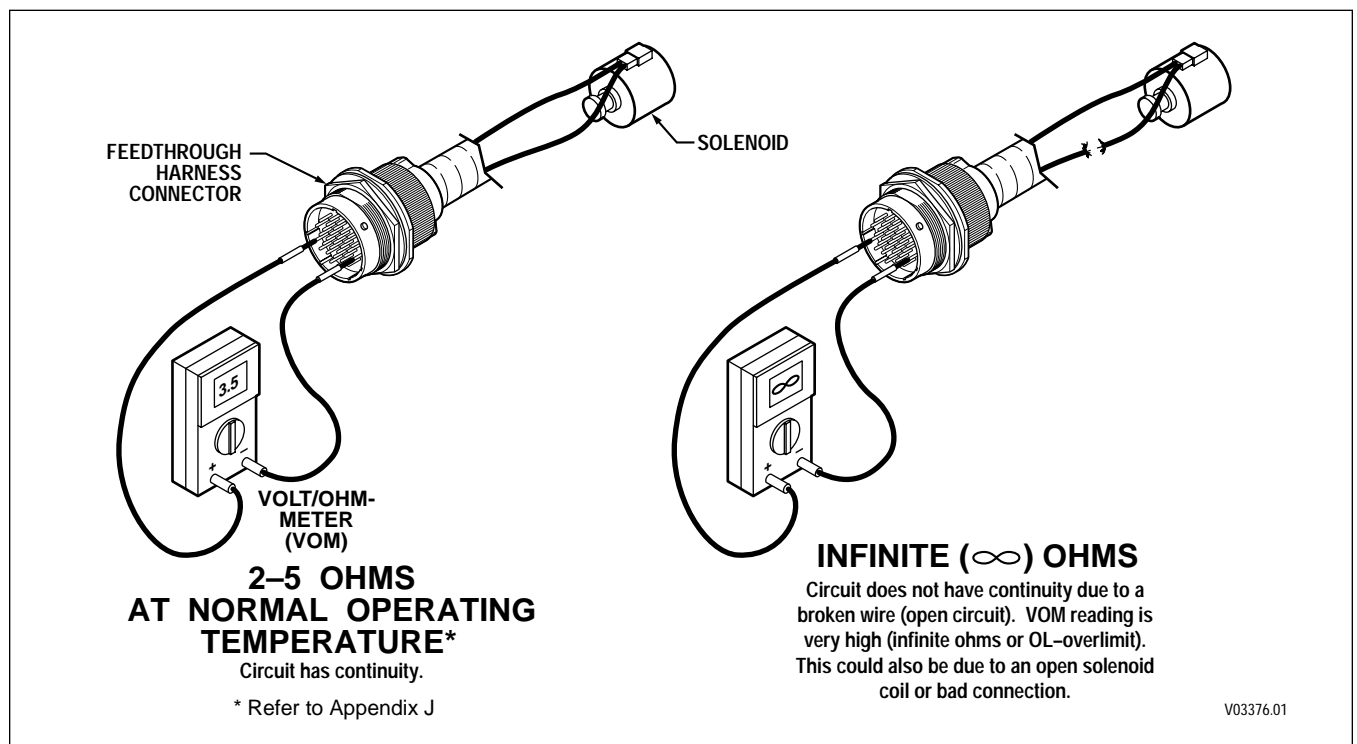

Figure 4–3. Checking Continuity
- b. If the resistance check is good, check the harness for shorts between wires and to ground by performing the following (refer to Figure 4–4):
- (1) At the transmission connector, touch one probe of the VOM to one wire of the circuit being tested and touch the other probe to each terminal in the connector and to chassis ground and the transmission main housing. Do this for both wires in the circuit being tested.
- (2) If the VOM shows zero to low resistance, or the continuity beeper sounds, there is a short between the two points being probed, wire-to-wire or wire-to-ground. An indication of a short may be caused by a splice to the wire being checked. Check the wiring diagram in Appendix J for splice locations. If the short is not a splice, then isolate and repair the short.